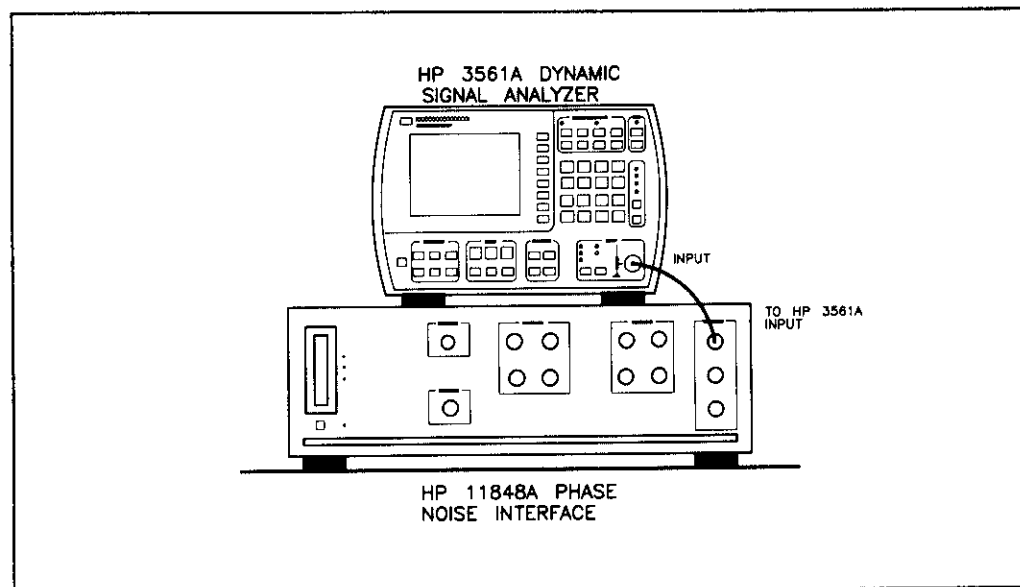

Figure 17. A4 Low-Noise Amplifier Adjustment Setup
5. Connect the instruments as shown on the display and in figure 17.